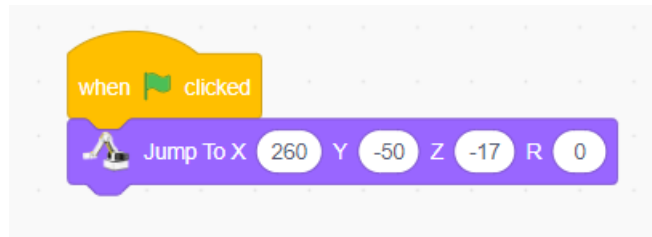

Figure 2.22 Jump to the position of the first object
- 1) Move to the first object at the initial position. Here the position of the first object is recorded as (260, -50, -17). Click the "**Motion**" tab, drag the "Jump To" block to the code area, and put it under the "when  is clicked" block, as shown in Figure 2.22.